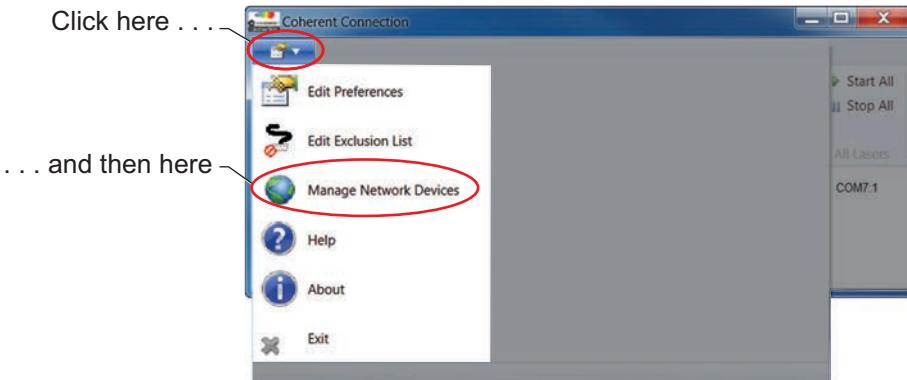

Figure 11-19. Manage Network Devices Option
4. Open the Manage Network Devices dialog from the Main menu, shown in Figure 11-19.